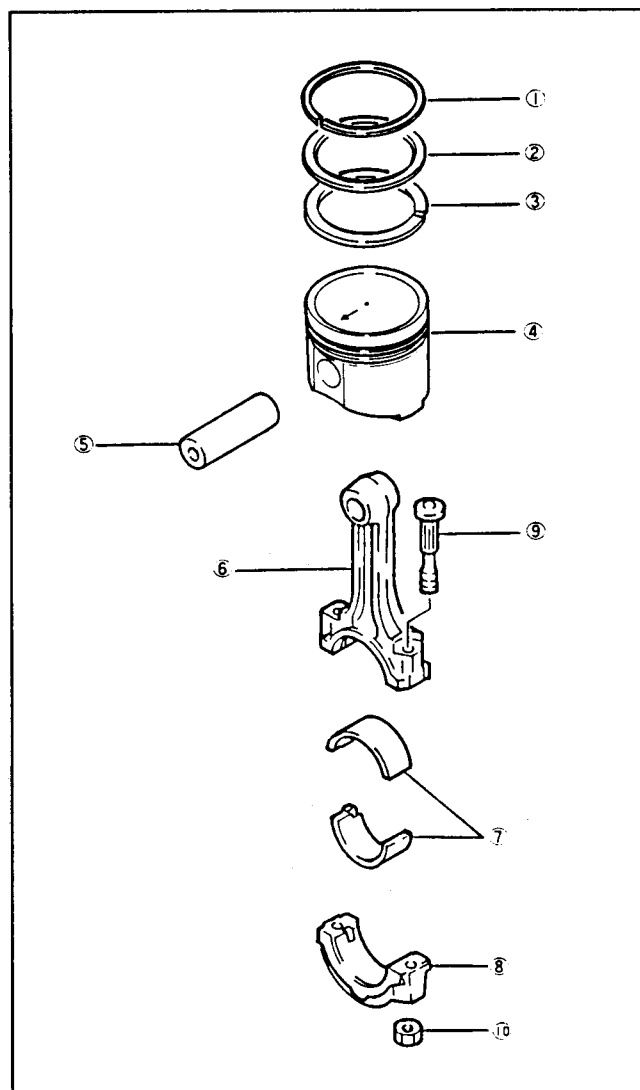

Figure 93
5. Remove the connecting rod end caps and bearings (Fig 93). Keep these parts in cylinder number order so they can be reinstalled in the same cylinder. Use a wood block to push the pistons and connecting rods up out from the bottom of the block. Take care not to scratch the crankshaft pin and cylinder.